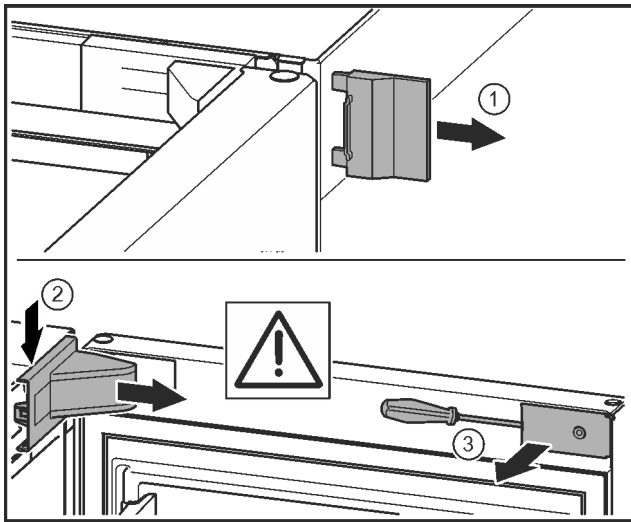

Fig. 11*
- ▶ Remove the outer cover.* Fig. 11 (1)
- ▶ Disengage and release the bearing bracket cover. Remove the bearing bracket cover.* Fig. 11 (2)
- ▶ Unlatch the panel with a slotted screwdriver and swivel it to one side.* Fig. 11 (3)